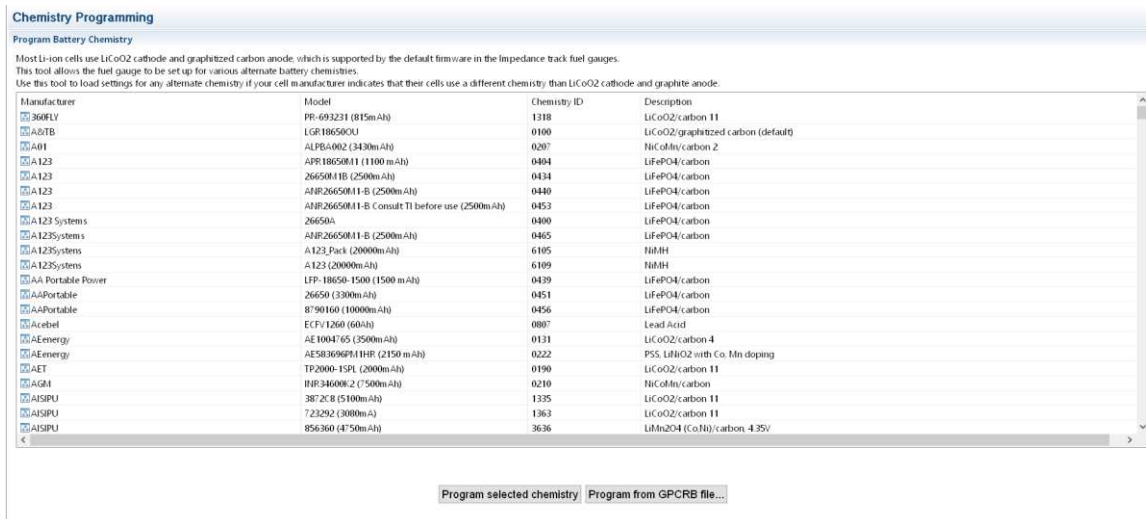

Figure 6. Chemistry Screen
Press the Chemistry button to select the Chemistry window (see Figure 6).
2. Select the Chemistry ID that matches the cell from the table (see Figure 6).